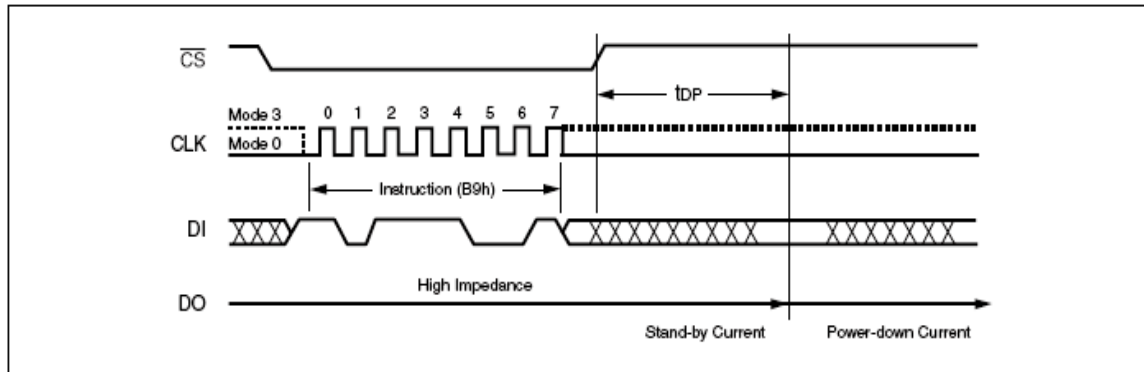

Figure 16. Deep Power-down Instruction Sequence Diagram
The instruction sequence is shown in Figure 16..Chip Select (CS#) must be driven High after the eighth bit of the instruction code has been latched in, otherwise the Deep Power-down (DP) instruction is not executed. As soon as Chip Select (CS#) is driven High, it requires a delay of t_{DP} before the supply current is reduced to I_{CC2} and the Deep Power-down mode is entered.